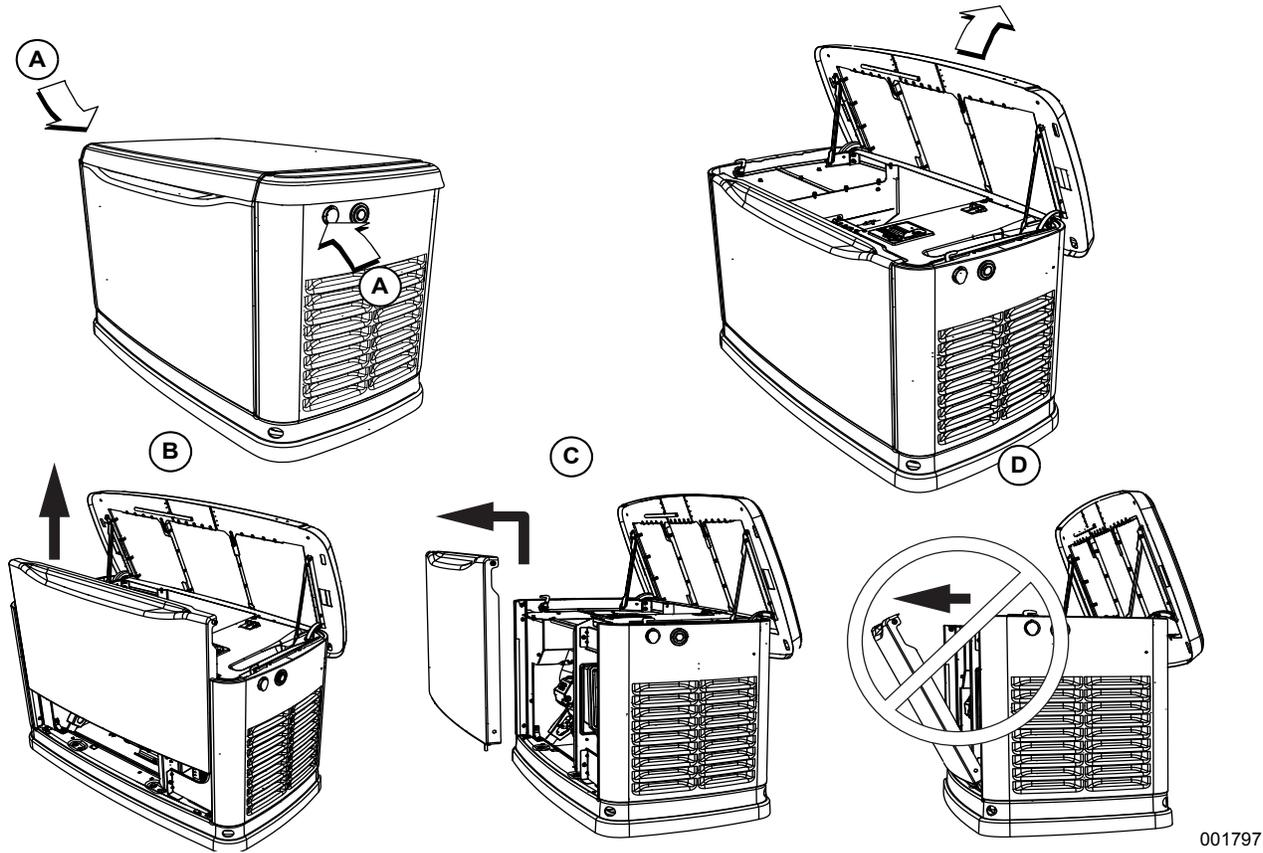

Figure 3-3. Side Lock Location and Front Panel Removal
See Figure 3-3. Two locks secure the lid—one on each side (A). Open the protective rubber cap to access the keyhole, and press down on the lid above the side lock and unlock the latch to properly open the lid.